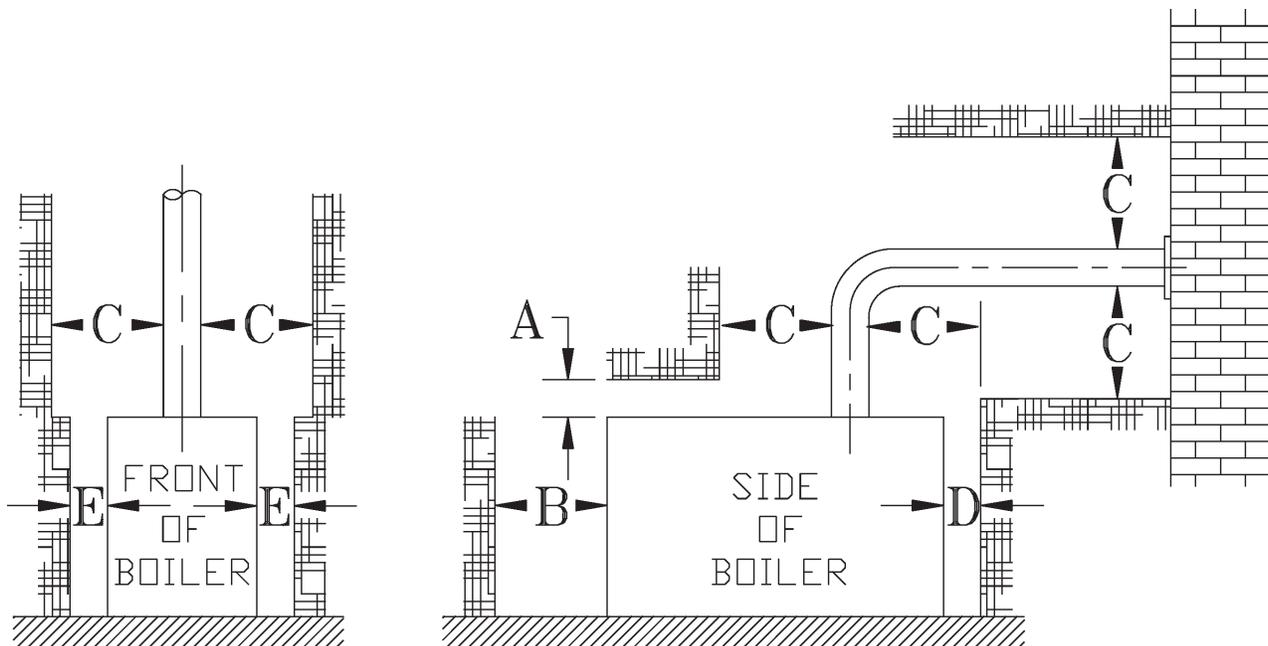

Figure 2-1: Minimum Installation Clearances To Combustible Materials (Inches)
5. For minimum clearances to combustible materials. See Figure 2-1.